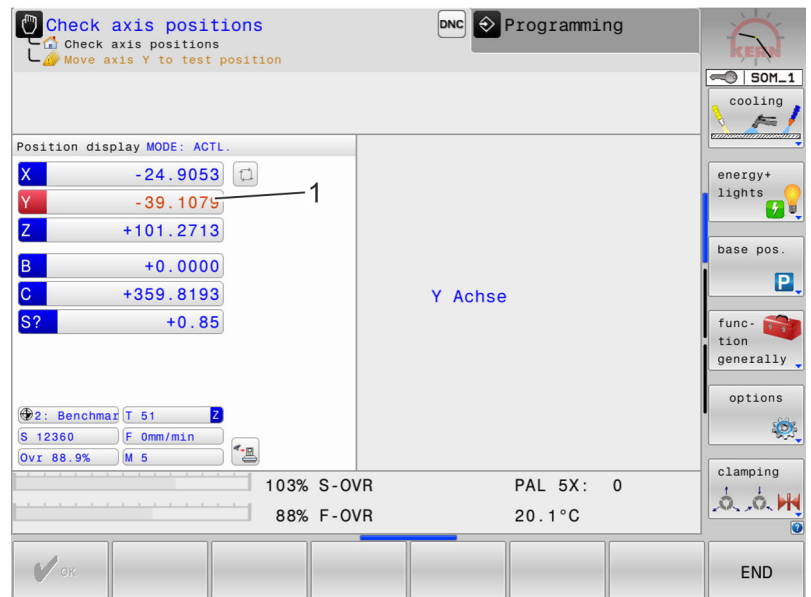

Fig. 43: Reference run, Y-axis (example)
5. → Press the *[NC-Start]* illuminated pushbutton to move the first faulty axis (example Y-axis: Fig. 43/1) to the test position.